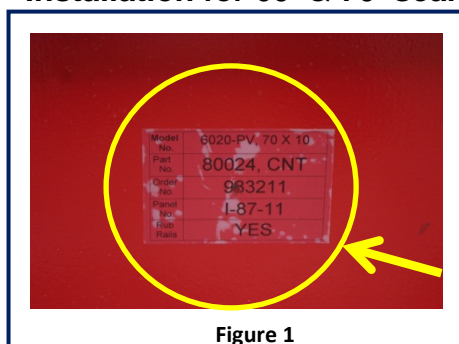

Figure 1
1. Identify the center module. The center module will have load blocks at each end weldment. The center module also features angled slide brackets on either side of the module, these are pre-installed from the factory. There is also a decal identifying the center module located on one of the end weldments. See Figure 1.